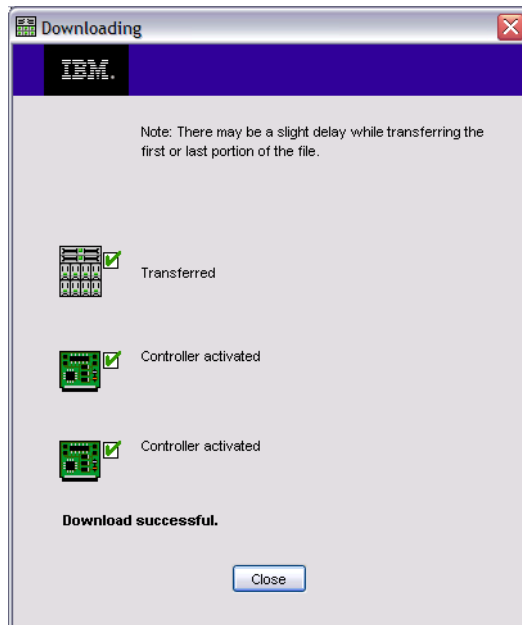

Figure 14-26 Download NVSRAM successful
4. After the file is transferred and activated (Figure 14-26), click **Close** to return to the Download Firmware view (Figure 14-12 on page 309).